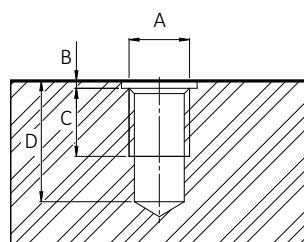

Figure 62: Mounting threads for Scientific Design models
1. Mount the camera to the base using suitable M4 screws at 2.7 Nm maximum torque for a thread engagement (C) of 6 mm between screws and mounting threads, see Figure 62. For details, see your model's technical drawings.